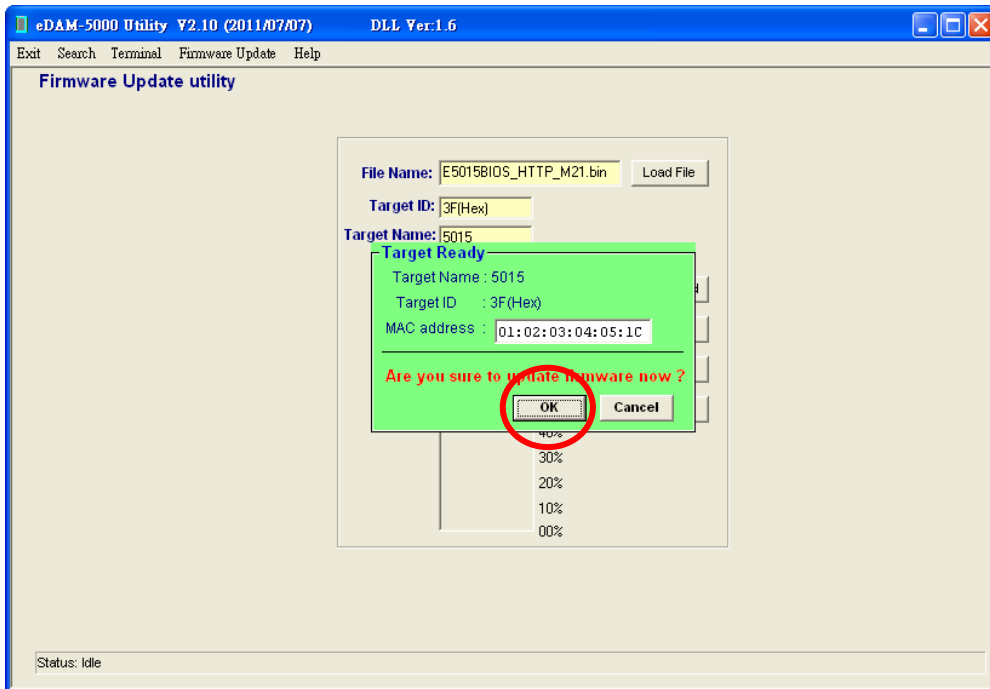

Figure 9
8. If module found. The “Target ready” window pop up (see Figure 9) .Click “OK” button to start